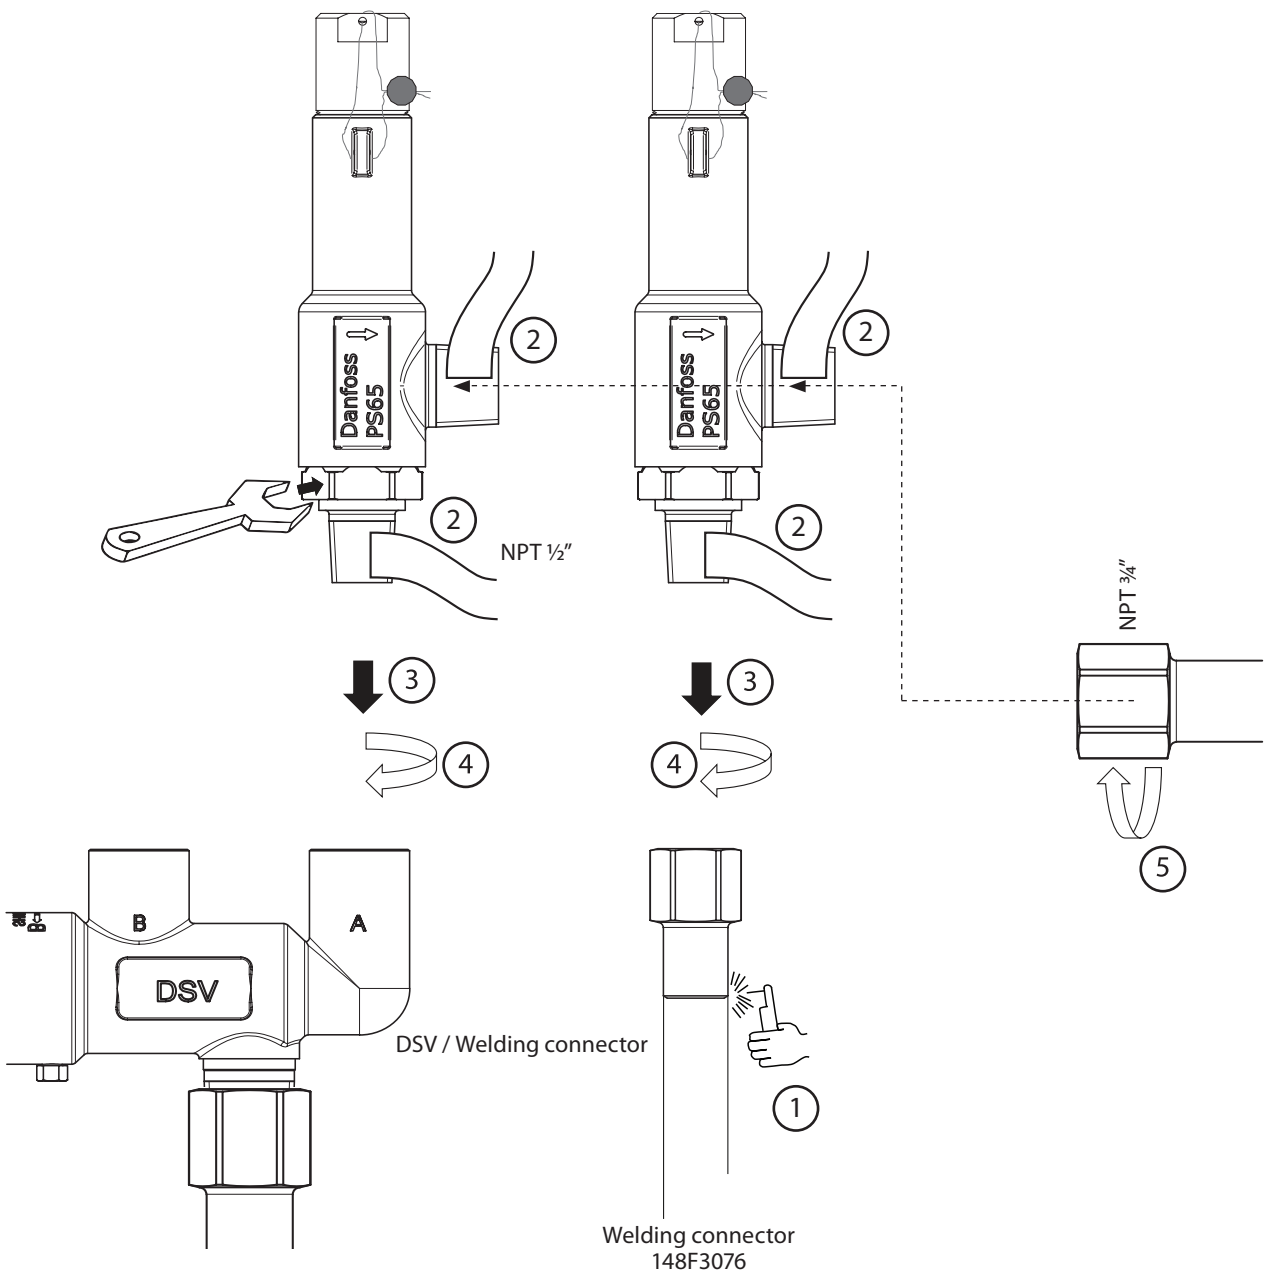

Fig. 6. SFA 10(H) NPT installation
Installation of SFA 10(H) NPT (see fig. 6)